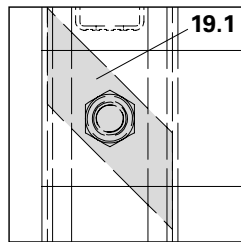

Fig. A6.03
4. Secure the ladder to ladder connectors with the clamping plates (19.1). (Fig. A6.03)
5. Attach the ladder cage (16) to the ladder with the clamping plates. (Fig. A6.03 and A6.04)
- Visual check of the clamping plates. The contact surface of the clamping plate (19.1) must be in contact with the ladder profile! (Fig. A6.03)